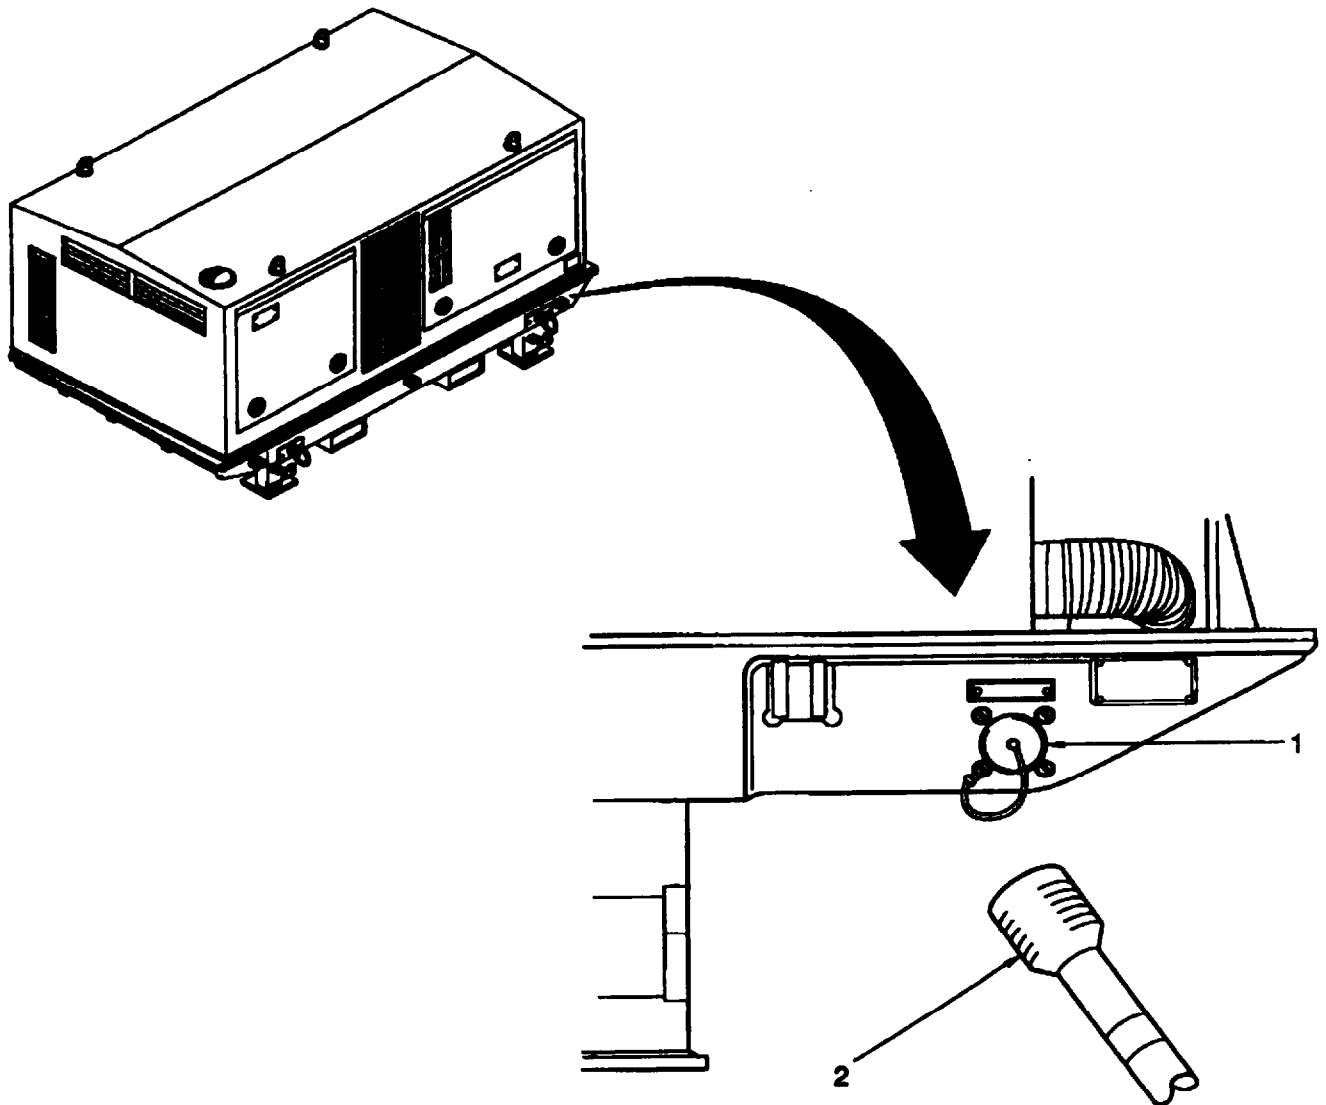

Figure 2-11 Connect Battery Cable.
(1) Remove protective cap (1, figure 2-11) from J3 SLAVE RECEPTACLE 24 VOLTS.
(2) Connect battery cable (2) to the J3 SLAVE RECEPTACLE 24 VOLTS of each Generator Set 150 kW.